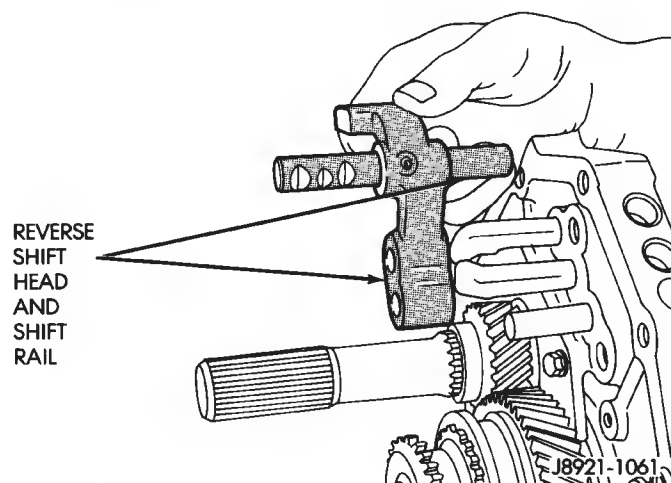

Fig. 105 Installing Reverse Shift Head And Rail
(9) Install reverse shift head and rail (Fig. 105). Then install lock ball in shift head.